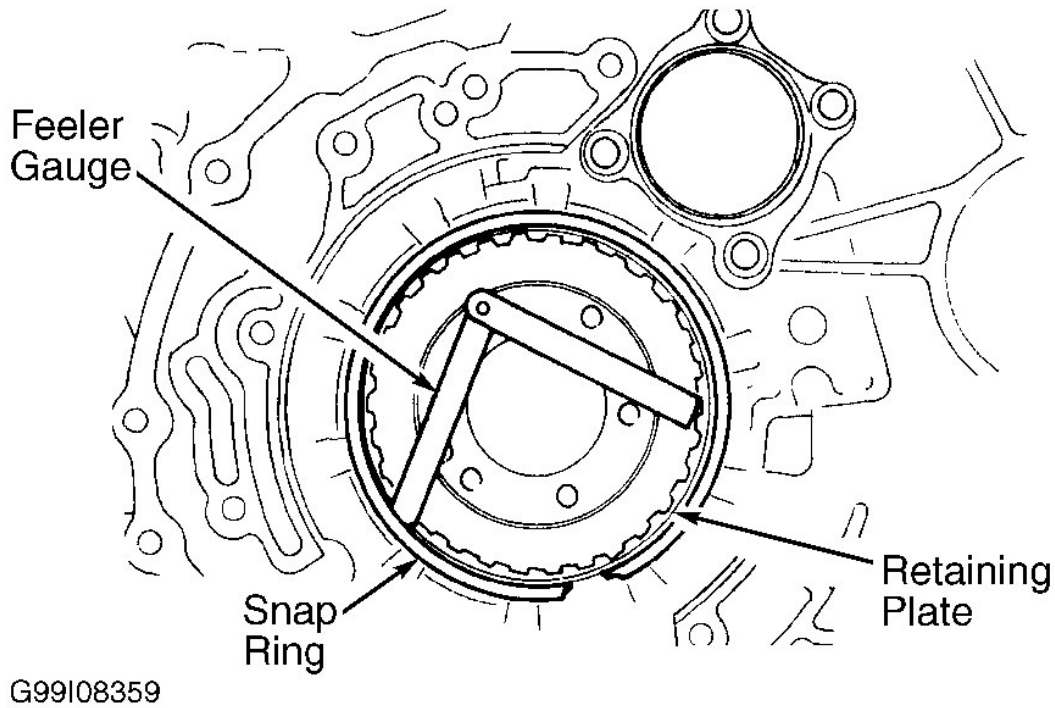

Fig. 39: Measuring Low-Reverse Brake Clutch Clearance
1. Install driven plates, drive plates, dish plate and retaining plate into transaxle case. Install snap ring. Measure clearance between snap ring and retaining plate. See **Fig. 39**. Replace retaining plate if clearance is not .067-.083" (1.70-2.10 mm), with allowable minimum limit of .130" (3.30 mm). Retaining plates are